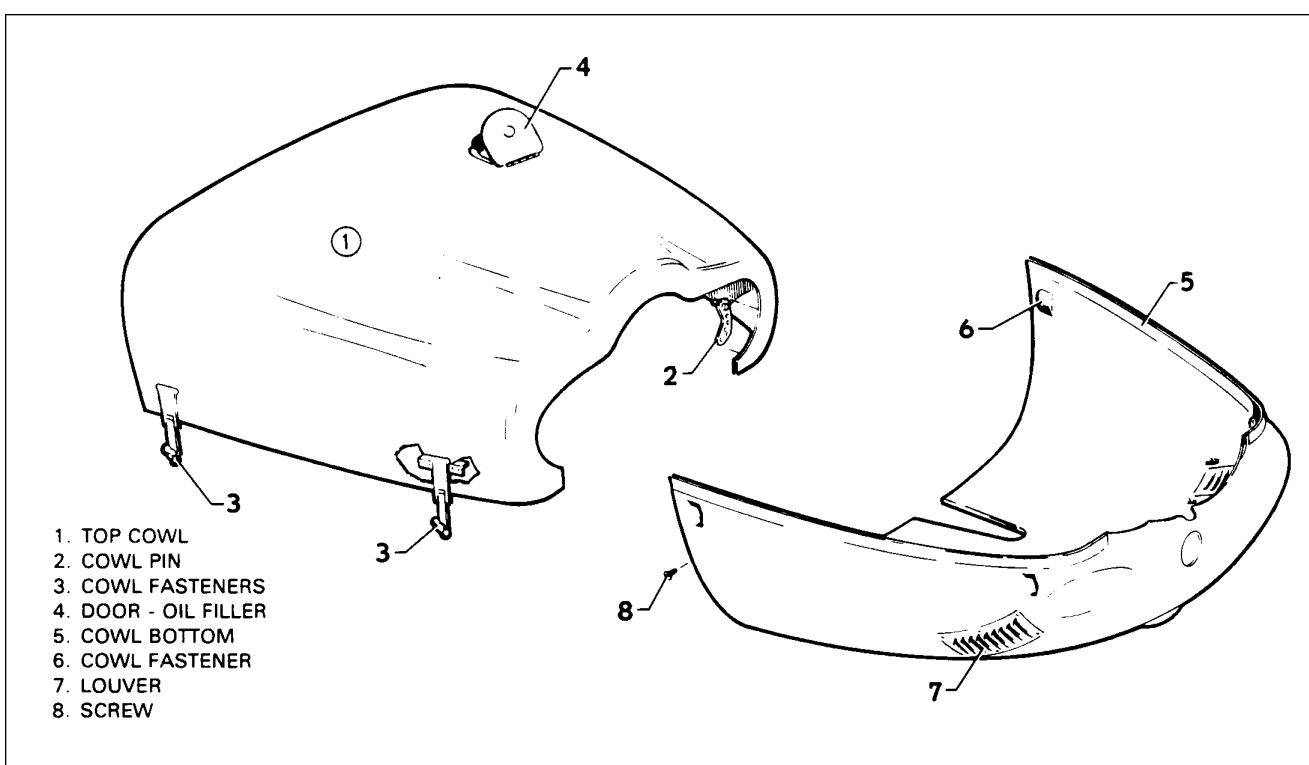

Figure 71-6. Archer II Cowling
1. Archer II. (Refer to figure 71-6.)